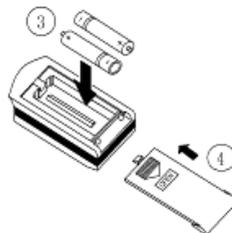

Fig 8.2
- 2.Take out the old batteries ,insert two AAA alkaline cells(As show in Fig 8.2.)